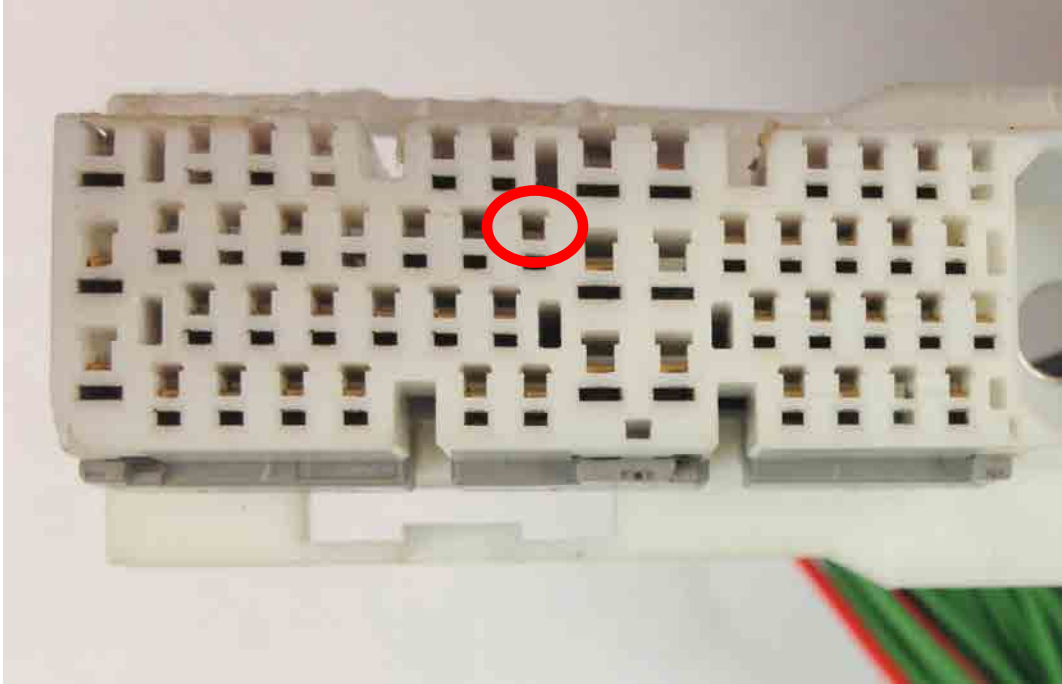

Figure 4: Pry this tab up with the screwdriver or paper clip to release pin
2. Next remove the pin from the plastic connector by lightly prying on the plastic tab that secure the pin in the plastic connector while gently pulling on the wire at the same time as shown in figures 4 and 5.